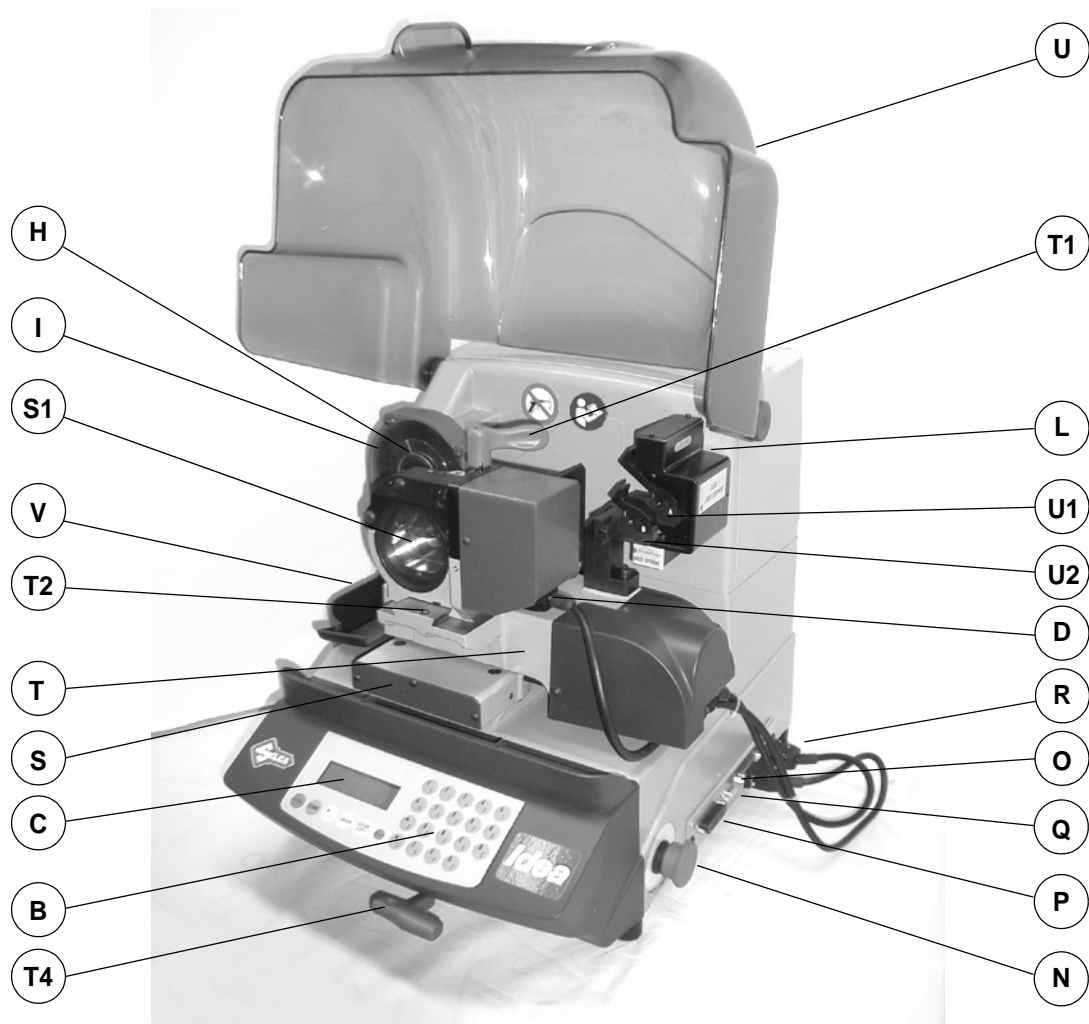

Fig. 11
The shield (U) (fig. 11, page 8) must be raised in order to fit keys for cutting or carry out other operations. Raising of the shield is controlled by a microswitch and disactivates the operating and movement functions, including the cutter. A special message appears on the display to warn that the shield is not closed.
The red emergency button (N) (fig. 11, page 8) placed on the right-hand side of the machine is used to stop it immediately in the event of faulty operation or danger for the operator.
The special holder for the “T” wrench (T4), on the front of the machine below keyboard (fig. 11) prevents damage to the machine caused by inadvertently leaving the wrench on the rotating clamp or the tailstock.